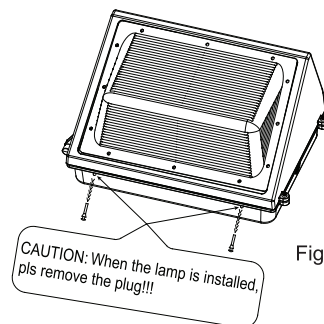

Figure 6
6. Caution: When the product is installed, please remove the plug at the drain hole. (Figure 6)